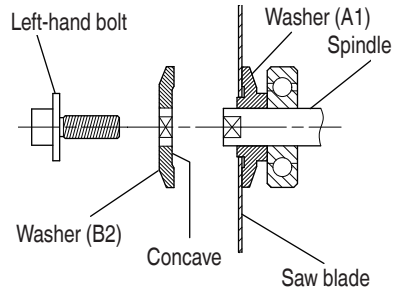

Fig. 5
2. Mounting the Saw Blade (Fig. 5)
- (1) Thoroughly remove any sawdust which has accumulated on the spindle, bolt and washers.
- (2) Apply quality machine oil to the surfaces of washers (B2) and (A1) which come into contact with the blade.
- (3) As shown in Fig. 5, one side of the saw blade should be fitted to the projecting center of washer (A1) which matches the blade's inner diameter, and the other side to the concave side of washer (B2).
- (4) To ensure that the saw blade rotates in the correct direction, make sure the arrow on the saw blade points in the same direction indicated by the arrow on the saw cover.
- (5) Using the fingers, tighten the left-hand bolt securing the saw blade as much as possible. Then press the lock button, lock the spindle, and fully tighten the left-hand bolt with the hex. wrench.